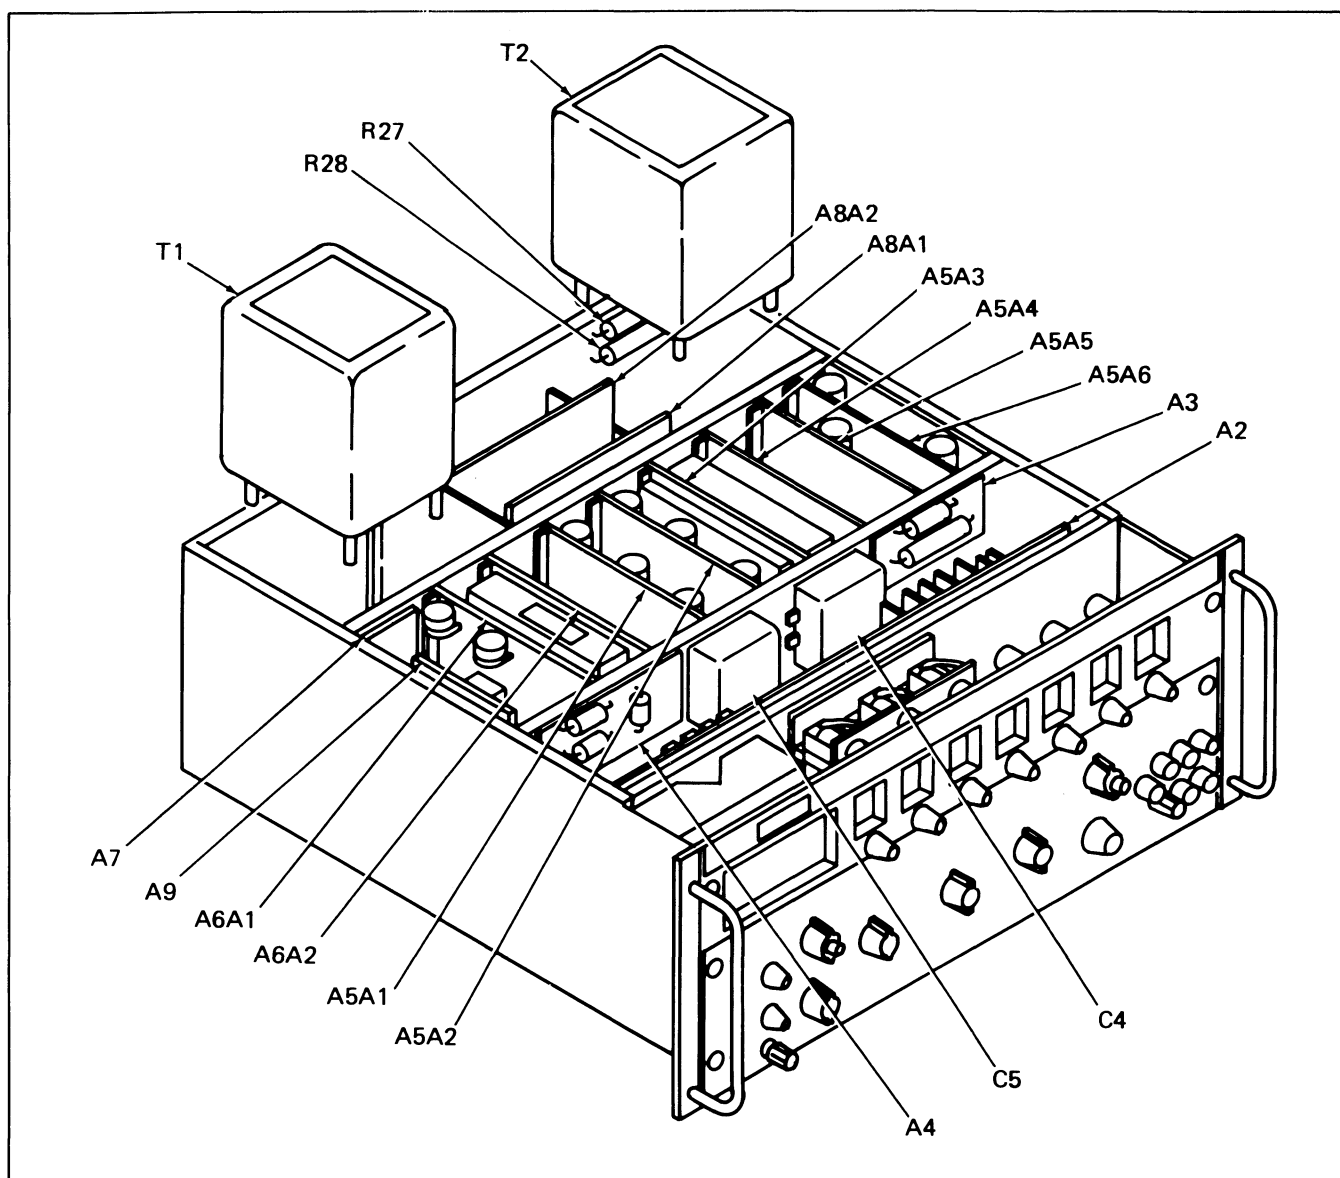

Figure 4-3. Inner Top Cover Removed
5. To remove inner top cover from instrument, unscrew 10 screws securing inner top cover to chassis and remove cover. See Figure 4-3.